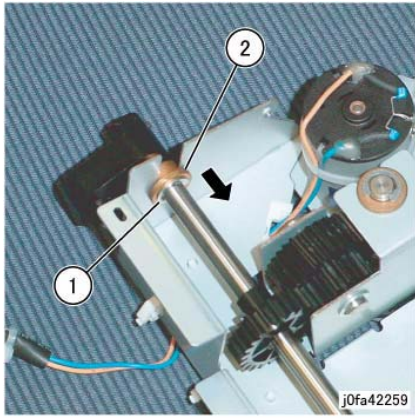

Figure 8 Moving the Bearing (j0fa42259)
12. Move the Bearing. (Figure 8)